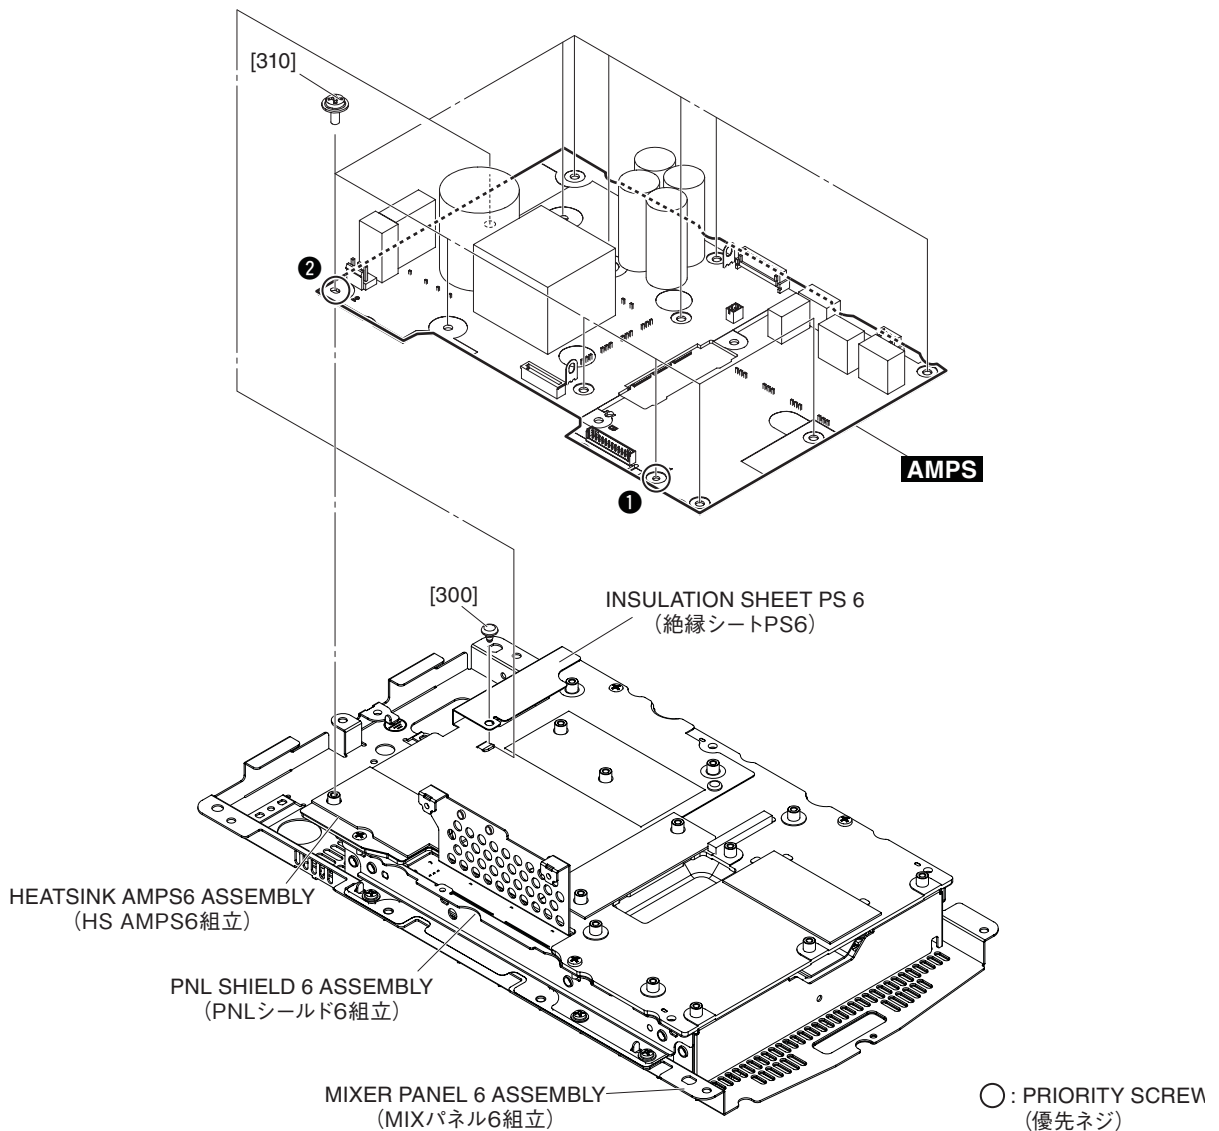

Fig.B-8(図B-8)
- B-8-8 Remove the twelve (12) screws marked [310] and nylon rivet marked [300]. The AMPS circuit board can then be removed. (Fig. B-8)
* **When installing the AMPS circuit board, first tighten the two (2) priority screws as shown in Fig. B-8.**
(図 B-8)
※ AMPS シートを取り付けるときには、優先ネジ 2 本を図に示す順で先に締めてください。(図 B-8)